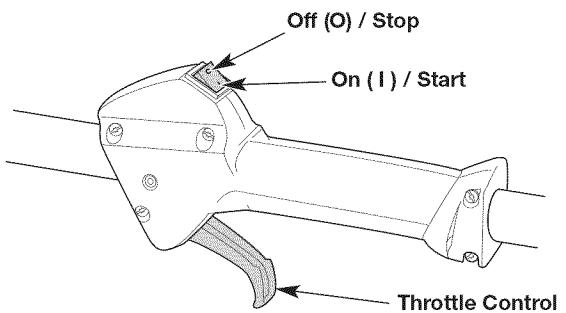
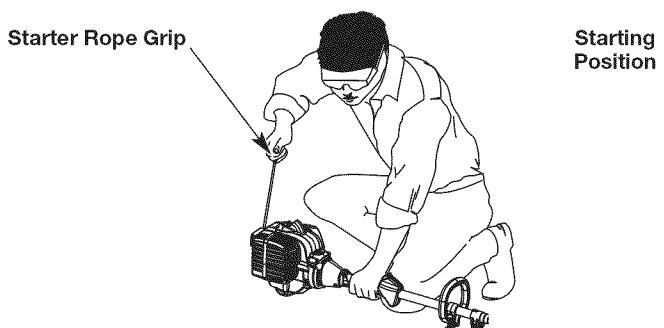

Fig. 8
Fig. 11
WARNING: Avoid accidentally starting the unit. To avoid serious injury, the operator and the unit must be in a stable position when pulling the starter rope (Fig. 11).
- NOTE:** There is no need to turn the unit on. The On/Off switch is in the ON (I) position at all times (Fig. 8).
5. Crouch in the starting position (Fig. 11).
6. **DO NOT** squeeze the throttle control (Fig. 8). Pull the starter rope with a controlled and steady motion until the unit starts (Fig. 11).
9. Squeeze and hold the throttle control (Fig. 8). Continue warming the engine for an additional 30 to 60 seconds. The unit may be used during this time.
2. Press and hold the On/Off switch in the OFF (O) position until the engine comes to a complete stop (Fig. 8).
7. **DO NOT** squeeze the throttle control (Fig. 8). Run the Speed Start™ accessory in intervals no longer than 2 seconds each until the unit starts.
11. Squeeze and hold the throttle control (Fig. 8). Continue warming the engine for an additional 30 to 60 seconds. The unit may be used during this time.